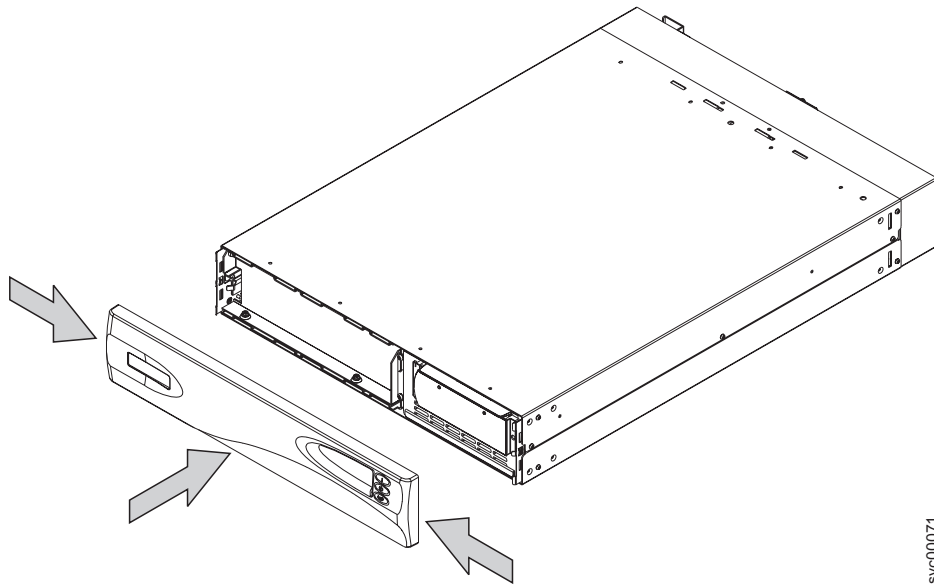

Figure 226. Replacing the 2145 UPS front panel
4. Replace the front panel by pressing the sides inward, and pushing on both ends towards the 2145 UPS (see Figure 226 on page 486).